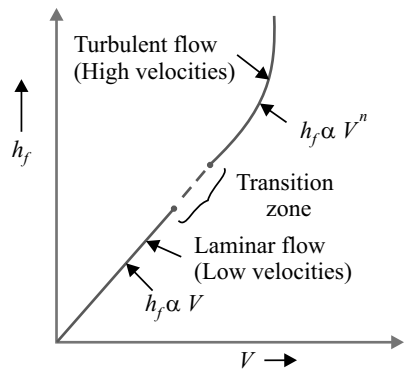

Fig. 10.4
- (ii) The velocity of flow (V) was changed and corresponding values of h_f (loss of head) were obtained.
- (iii) A graph was plotted between V (velocity of flow) and h_f (loss of head). Such a graph is shown in Fig. 10.4. It may be seen from the graph that: